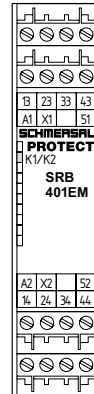

Fig. 1
5.2 Terminal description (see Fig. 1)
Single-channel control at terminal A1 of the SRB 401EM expander module through a safety release of the basic module (Fig. 1)